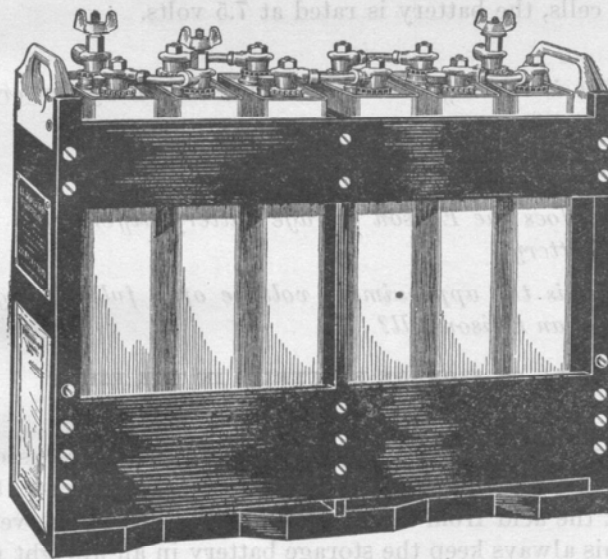

Fig. 11.—Edison storage battery, type BB-5.
*Edison battery.*—The Edison battery generates electricity in the same manner as the lead cell type of battery; that is, by chemical reaction. The Edison battery differs from the lead battery in construction, however, the positive plates of the Edison cells being composed of nickel while the negative plates are of pure iron. The cell jars are made of nickel-plated sheet steel. The solution used in the cells consists of caustic soda and water. The type BB-5 storage battery is an Edison battery having 6 cells. (See Fig. 11.) For situations requiring a portable battery, the Edison cells are contained in sheet-steel boxes, while for permanent installations a wooden rack is provided as a container for the cells.
- (9) *What is the chief advantage of the storage cell?*
- (10) *What is the chief disadvantage?*